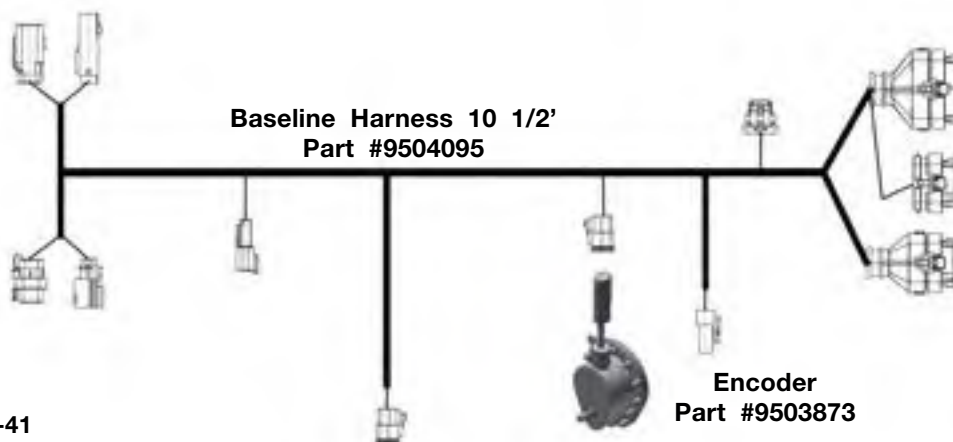

FIG. 2-41
1. Attach the baseline harness (9504095) to the encoder (9009382). (FIG. 2-41)